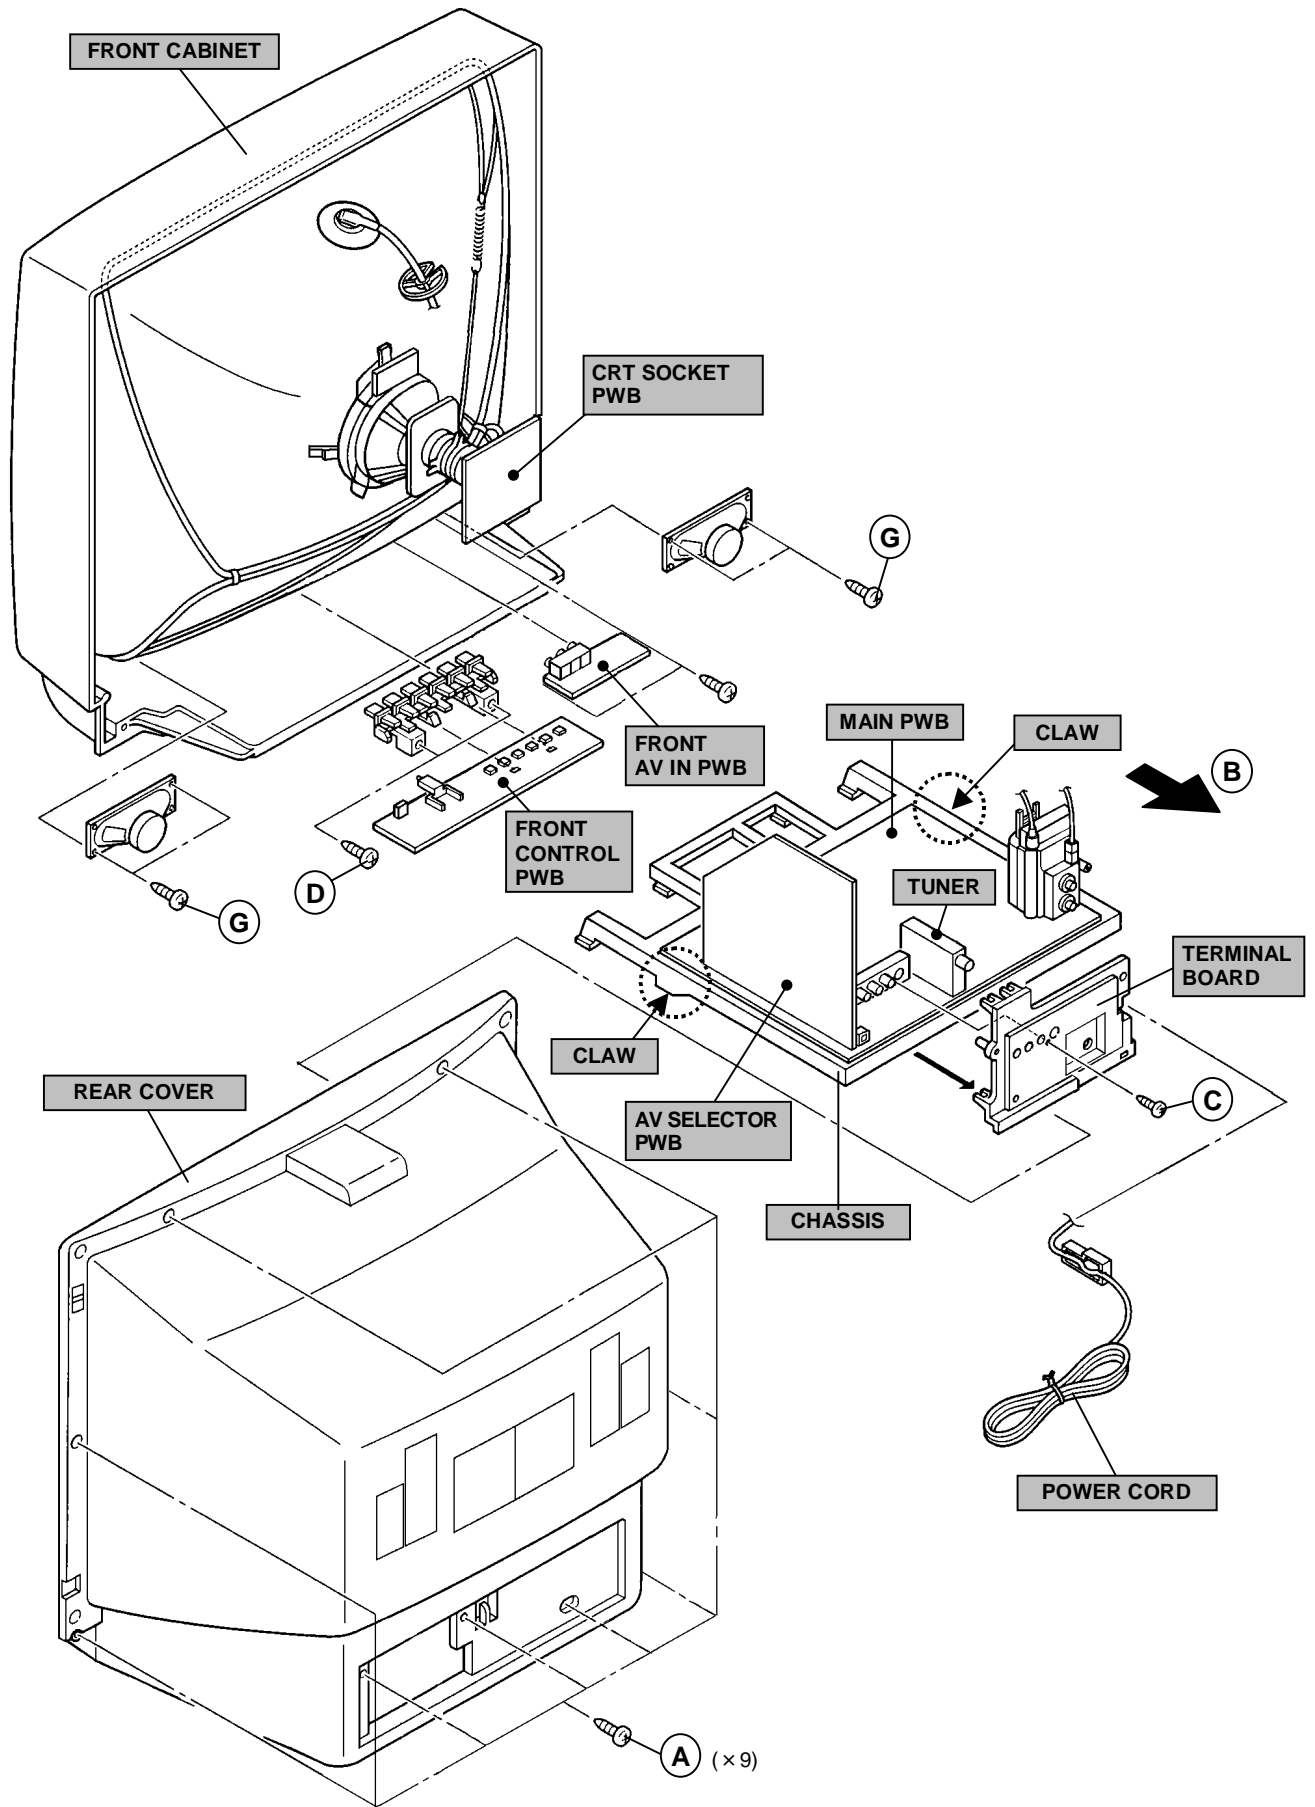

Fig.2
- 1. Remove the 9 screws marked (A) as shown in Fig.2.
- 2. Draw the chassis backward along the rail in the arrow direction marked (B) as shown in the Fig.2.
- 1. Remove the 1 screws marked (C) as shown in Fig.2.
- 1. Remove the 2 screws marked (D) as shown in Fig.2.
- 1. Remove the 2 screws marked (G) as shown in Fig.2.